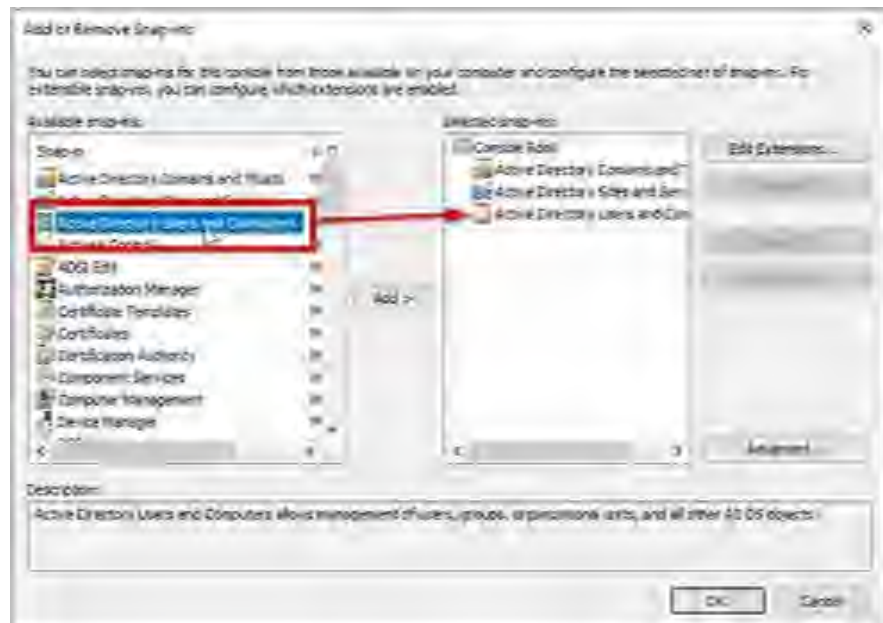

Figure 9. Add Active Directory Users and Computers.
- Add it to the Console Root (Figure 9).